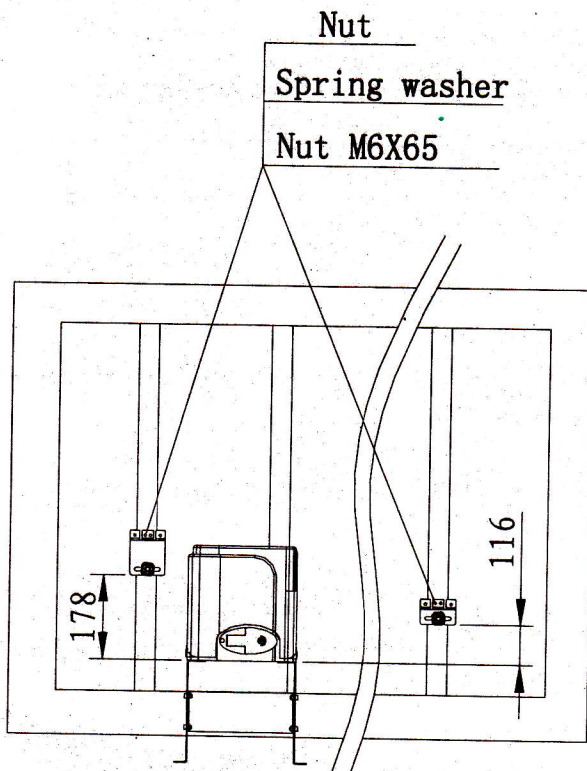

Fig.6
- Install the limit block as shown in Fig.6. The magnetic of limit switch and blocks are used to control the position of the gate.